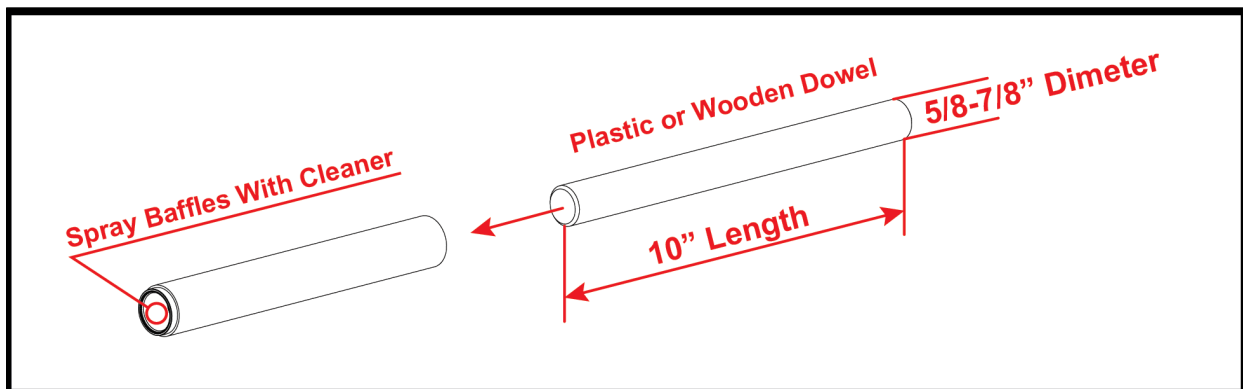

FIGURE 8.1 - Tap baffles from the rear with plastic or wooden dowel
3. Using a plastic or wood dowel ($\frac{5}{8}$ " - $\frac{7}{8}$ " diameter), gently tap the baffles from the rear of the suppressor assembly. (FIGURE 8.1)